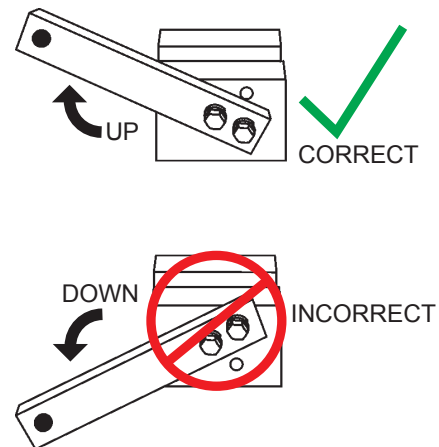

Figure 65. Fixture Arm Position (UP)
2. Make sure the fixture arm is in the **UP** position (Figure 65).